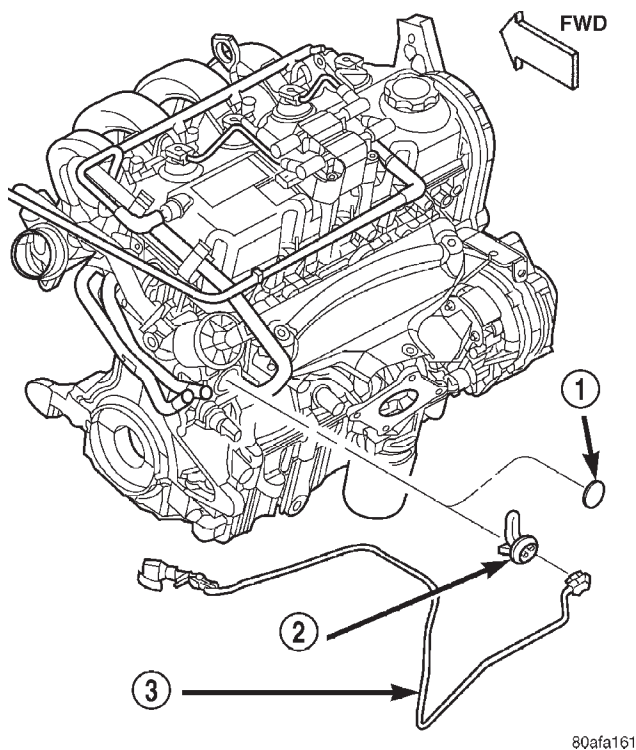

Fig. 31 Engine Block Heater
(1) Drain coolant from radiator and cylinder block. Refer to Cooling System Draining in this section for procedure.
(2) Detach power cord plug from heater (Fig. 31).
(3) Loosen screw in center of heater. Remove heater assembly (Fig. 31).
- (1) Thoroughly clean core hole and heater seat.
- (2) Insert heater assembly with element loop positioned **upward** (Fig. 31).
- (3) With heater seated, tighten center screw securely to assure a positive seal.
- (4) Connect power cord to block heater (Fig. 31).
- (5) Fill cooling system with coolant to the proper level, vent air, and inspect for leaks.